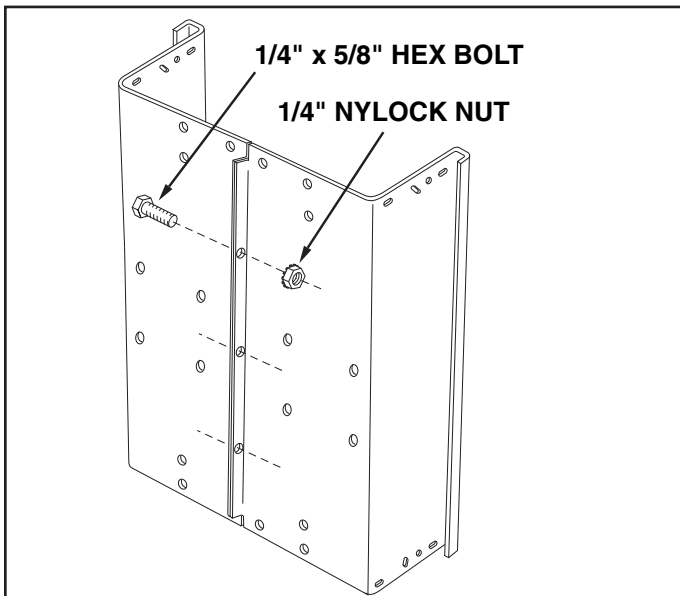
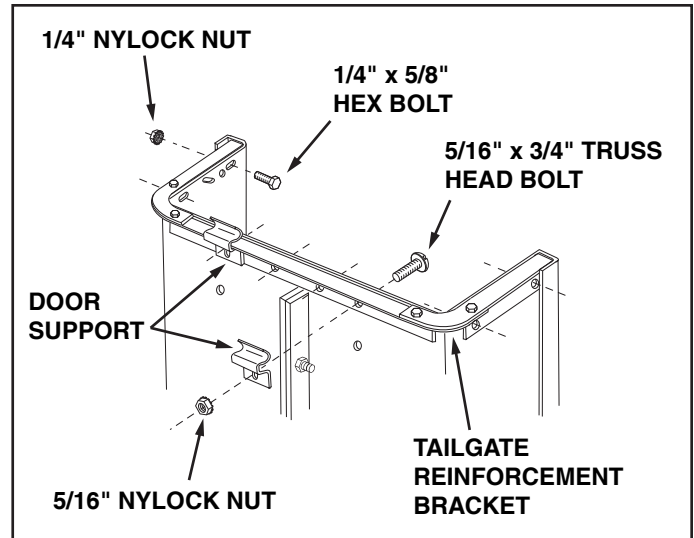

FIGURE 1
FIGURE 2
- Place cart body halves upright on a smooth level surface such as a garage floor or a paved driveway. See figure 1.
- Assemble cart body halves together using three 1/4" x 5/8" hex bolts and 1/4" nylock nuts as shown in figure 1. **Do not tighten yet.**
- Fit the tailgate reinforcement bracket over the end of the cart bed. Position the two door support brackets on the bottom of the reinforcement bracket as shown in figure 2. Fasten the reinforcement bracket and the door supports to the bottom of the cart using four 5/16" x 3/4" truss head bolts and 5/16" nylock nuts. **Do not tighten yet.** See figure 2.
- Fasten the tailgate reinforcement bracket to the sides of the cart body using four 1/4" x 5/8" hex bolts and 1/4" nylock nuts as shown in figure 2. **Do not tighten yet.**
- Pull the cart body halves together. **Tighten** the four truss head bolts in figure 2. **Tighten** the four hex bolts in figure 2. **Tighten** the three hex bolts in figure 1, keeping the bottom aligned and pulled together.